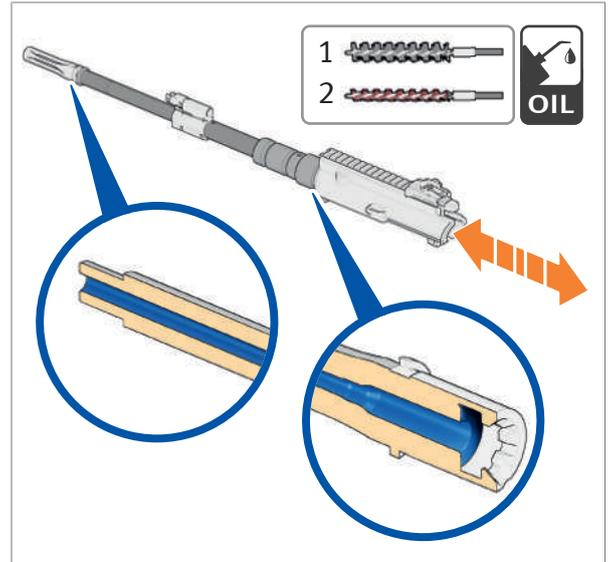

Fig. 108: Clean barrel
6. Pull oil-lubricated oil brush through barrel (*Fig. 108*).
13. Pull oiled barrel cleaning brush through the barrel several times (*Fig. 108*).